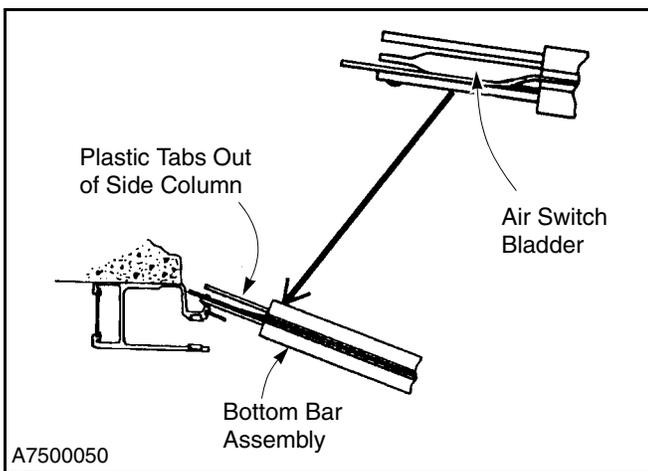
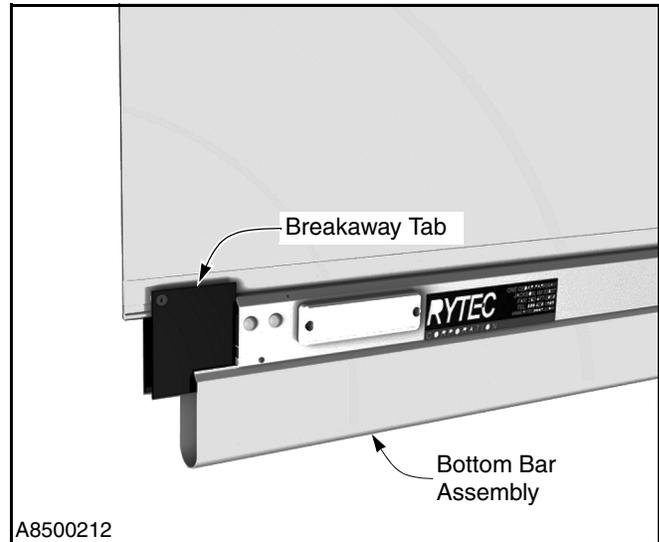

Figure 33
Figure 34
2. Push the breakaway bottom bar out of the side column. Door should not operate until control panel is reset. (See Figure 33 and Figure 34.)